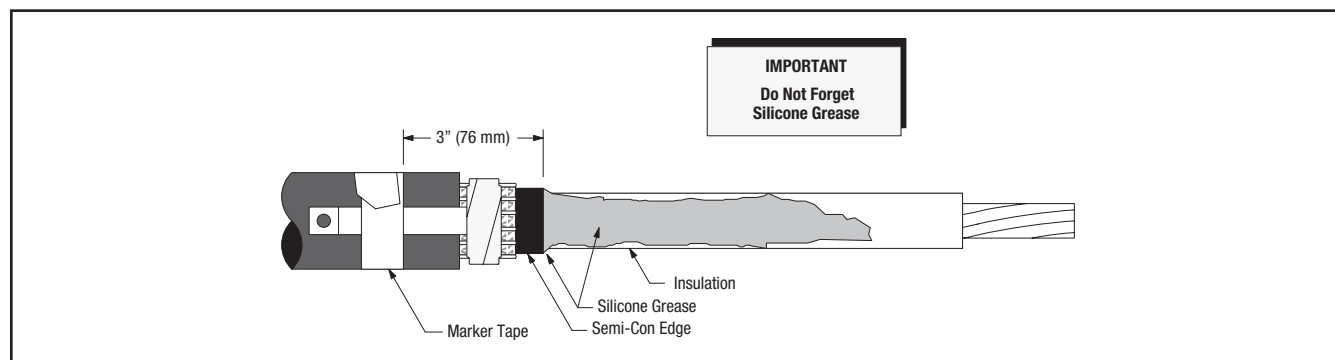

Figure 12
10.1 Place a marker tape 3" (76 mm) back from semi-con step using vinyl tape (Figure 12).
10.2 Apply a liberal coating of silicone grease over the semi-con step (Figure 12).